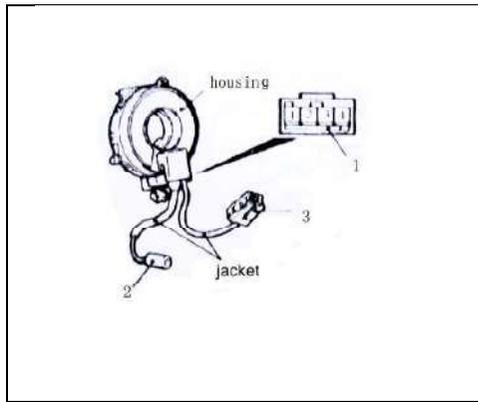
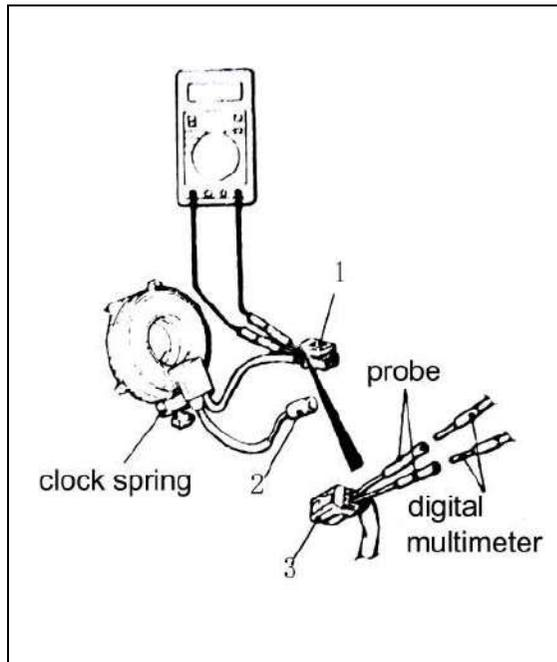

Fig 19-31
Fig 19-32
- (2) Clock spring check(See fig 19-31、 fig 19-32)
5) Connect a digital multi-meter to the probe as shown fig 19-32 ,to check that conductivity is present between the terminals.